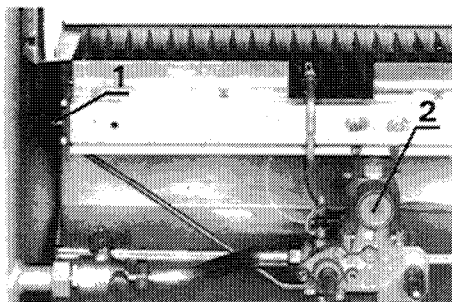

Fig. 16
- b) Remove the plug (1, fig. 16) from the pressure test point on the end of the burner manifold.
- d) Remove the cap (2, fig 16) from the volume governor.